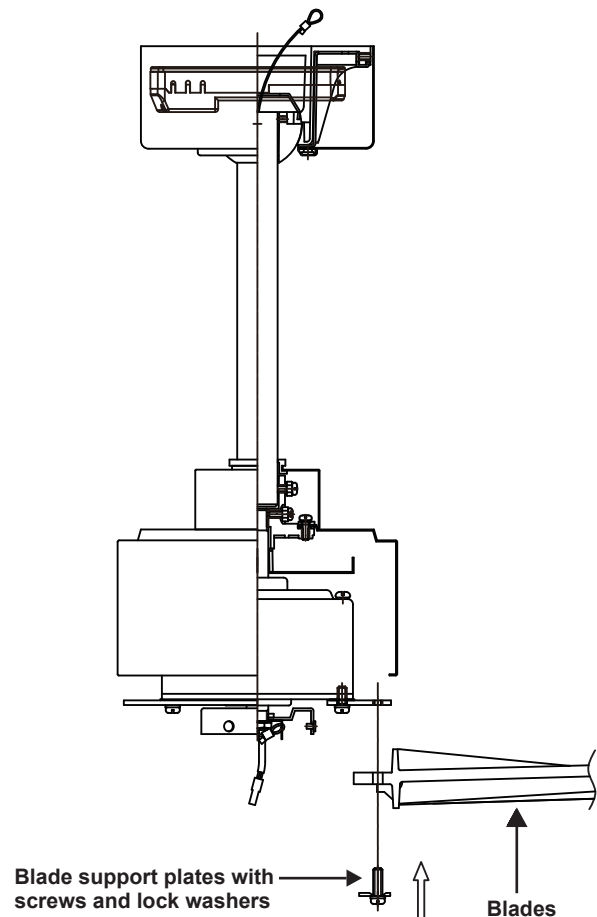

Figure 14
1. Align the holes on the blade and the fan motor assembly and secure the blade in place with blade support plate with screws and lock washers provided. (Fig. 14)